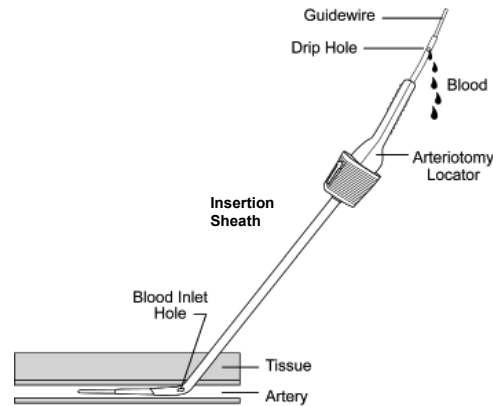

Fig. 2
6. Thread the Angio-Seal arteriotomy locator/insertion sheath assembly over the guidewire; the drip hole (located above the arteriotomy locator hub) will be oriented down and away so the flow of blood can be observed. Make sure the reference indicator on the insertion sheath is facing up, insert the assembly into the puncture tract. When the tip of the insertion sheath is about 1.5 cm into the artery blood will begin to flow from the drip hole in the locator (Figure 2).